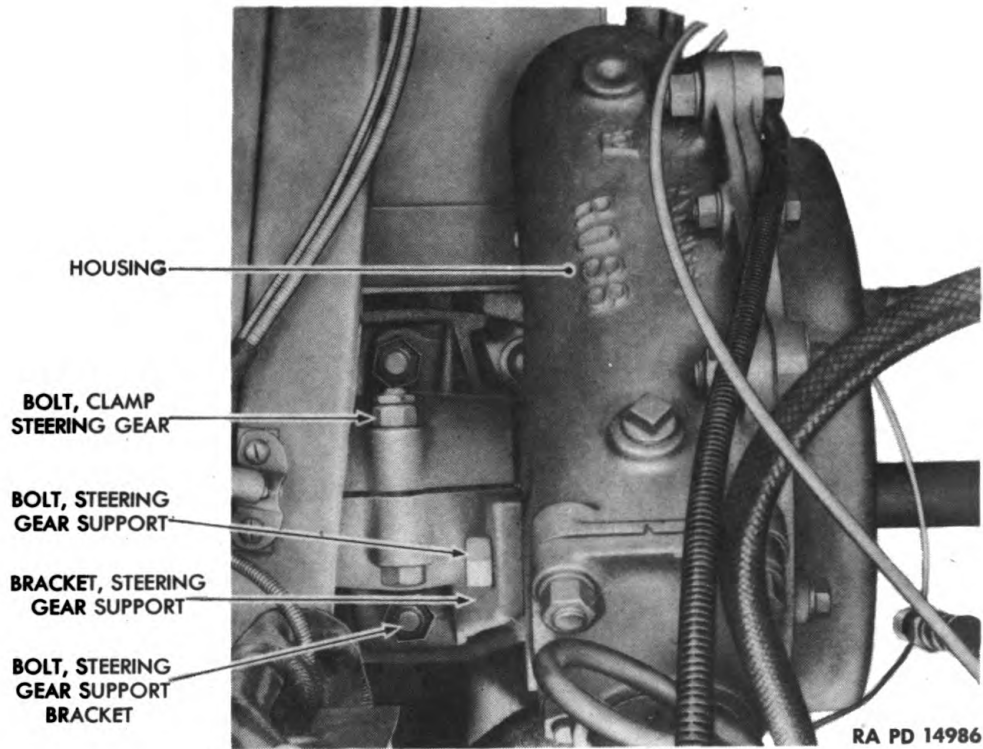

Figure 90—Steering Gear Mounting
(2) DISCONNECT STEERING GEAR (fig. 90).
(a) Remove steering gear clamp bolt palnut, clamp bolt nut and clamp bolt (5/8-in. open-end wrench) (fig. 90).
(c) Face toward inside of steering gear housing and twist and pull forward on steering gear assembly until it is loose from steering gear bracket (fig. 90). Lift out steering gear assembly.